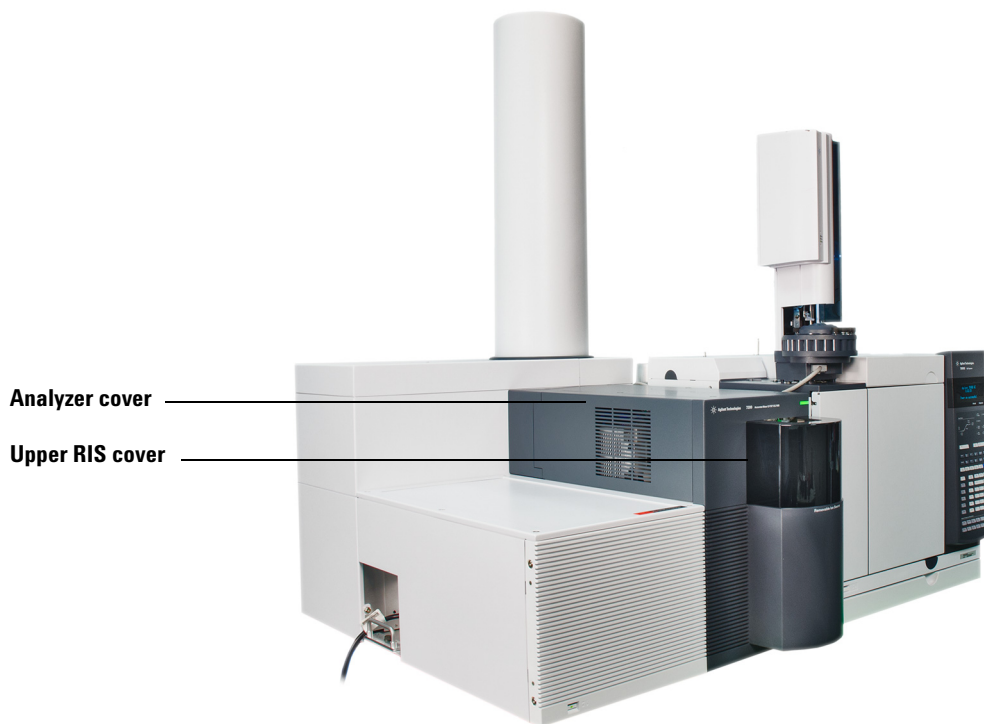

Figure 14 Covers
Open the analyzer cover (Figure 14) to access the analyzer sideplate only. This is necessary during pump down or to access the analyzer sideplate thumbscrews. You should not open the analyzer cover for any other reason.
- 3 Turn on the Q-TOF power switch (Figure 14).